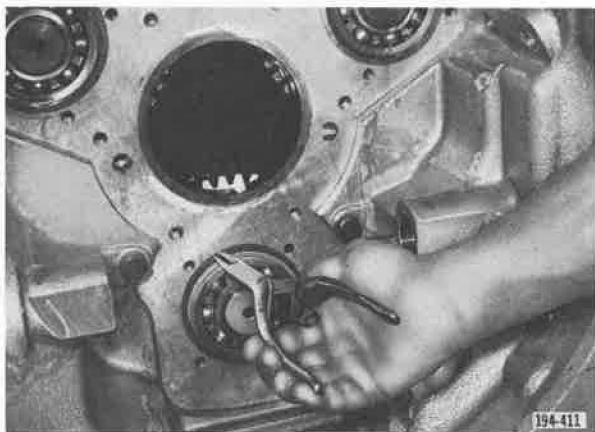

Figure 5-711. Removing Snap Ring
16. Remove countershaft front bearing positioning snap rings, using snap ring pliers J-25445 or equivalent. See **Figure 5-711**.